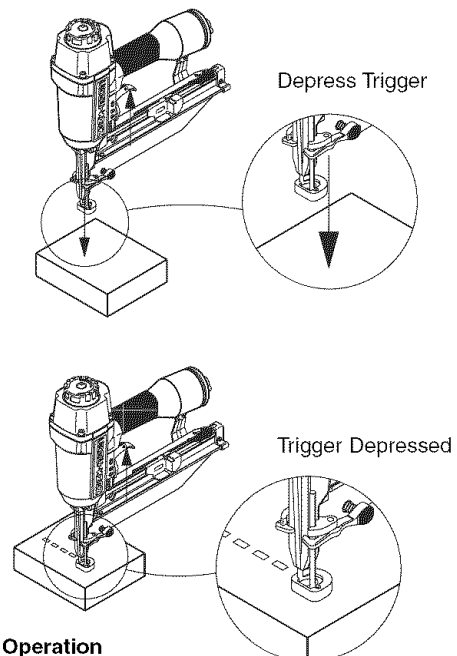

Figure 3
Refer to Figures 3 & 5 (pages 3 and 6)
- The air tool is equipped with a contact trip safety mechanism (see Figure 3, page 3) that disables tool unless contact trip is pushed against work. Hold body firmly and press contact trip on workpiece where fastener is to be applied. Pull trigger to drive fastener into workpiece.